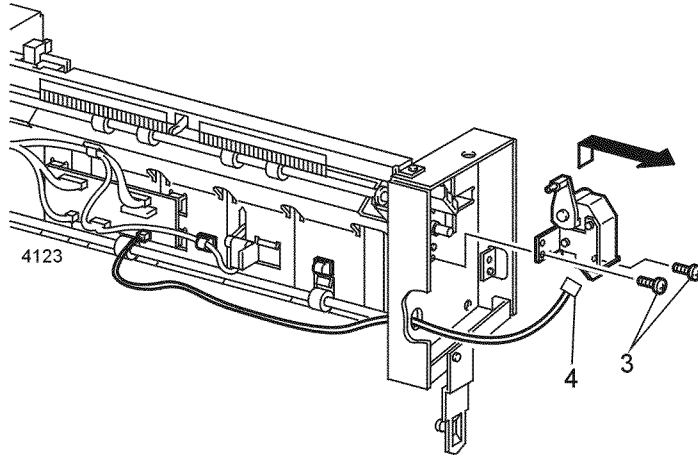

Figure 1 Offset Motor Assembly
3. Remove the two screws that secure the Offset Motor Assembly to the OCT (Figure 1).
4. Disconnect P/J516 from the Offset Motor Assembly (Figure 1).